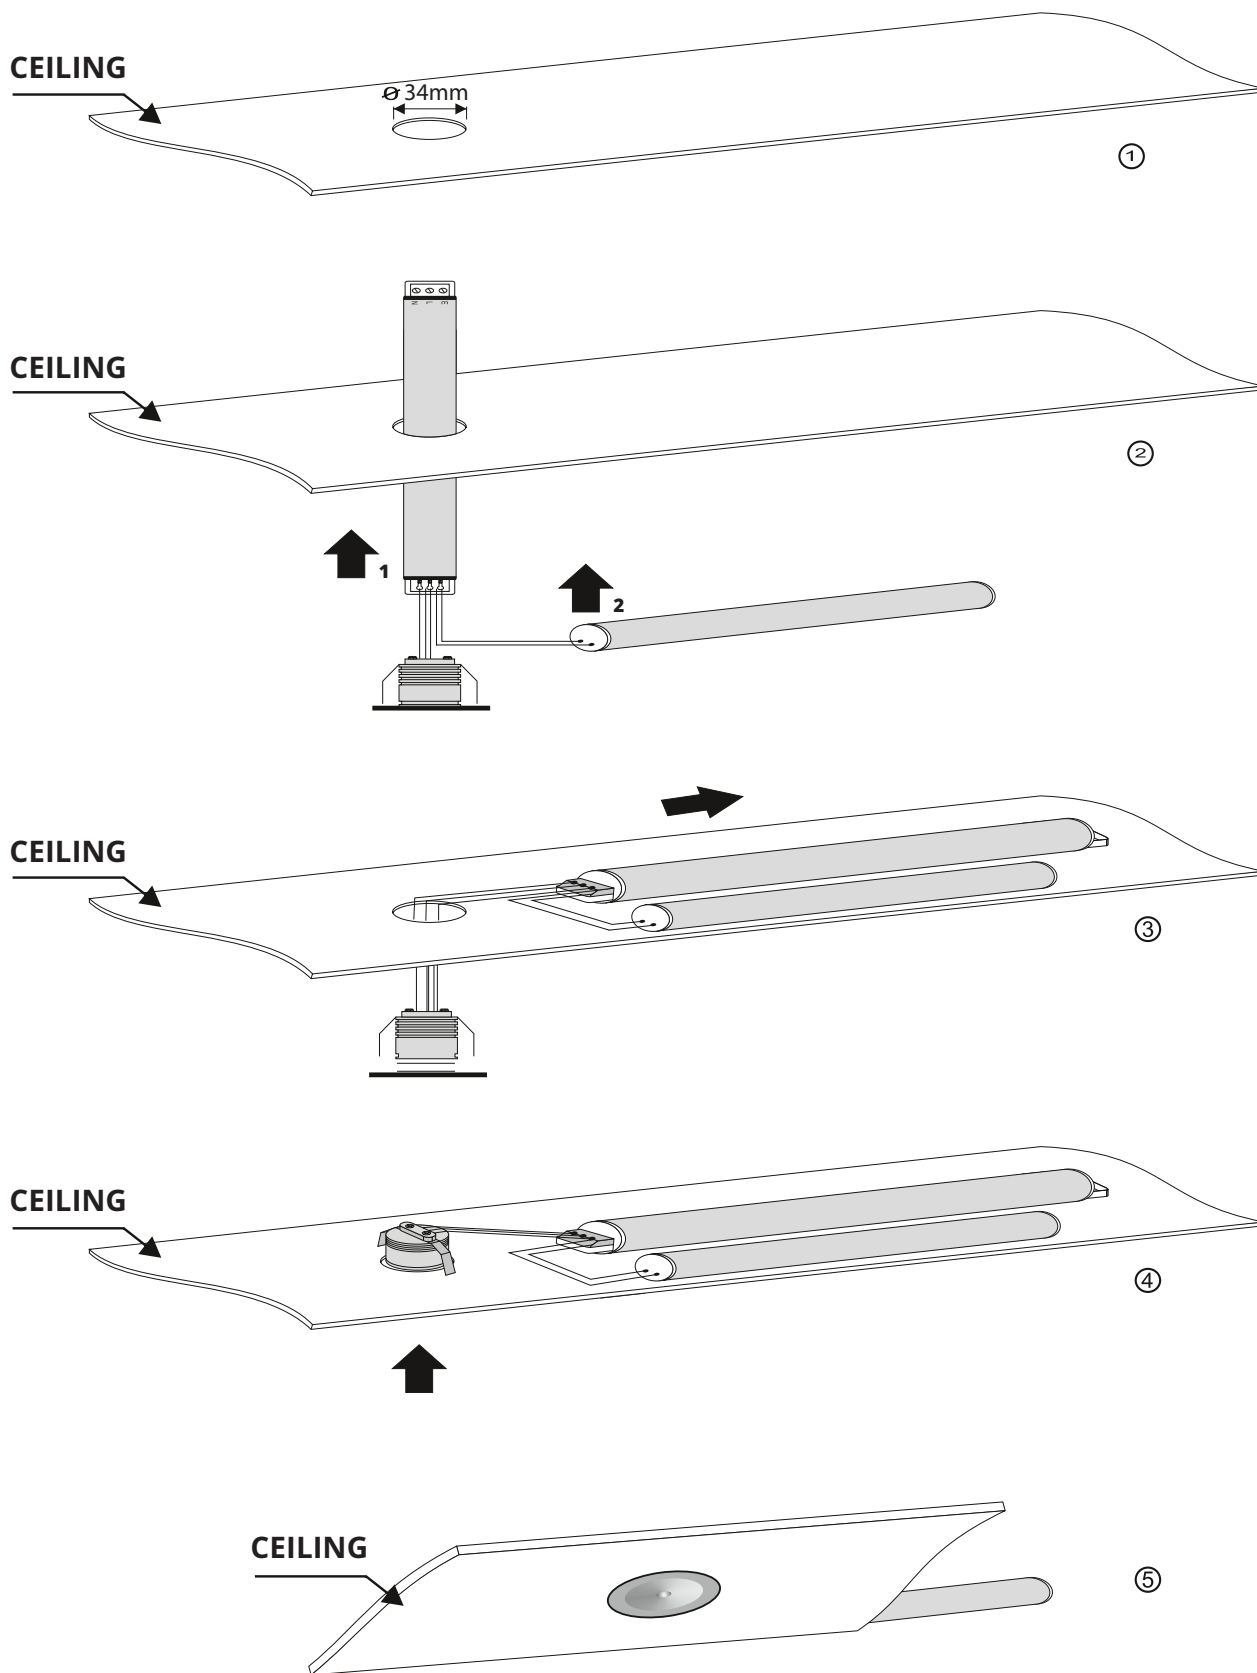

Figure 2
7. Place the LED downlight into the ceiling space following steps in Figure 2.